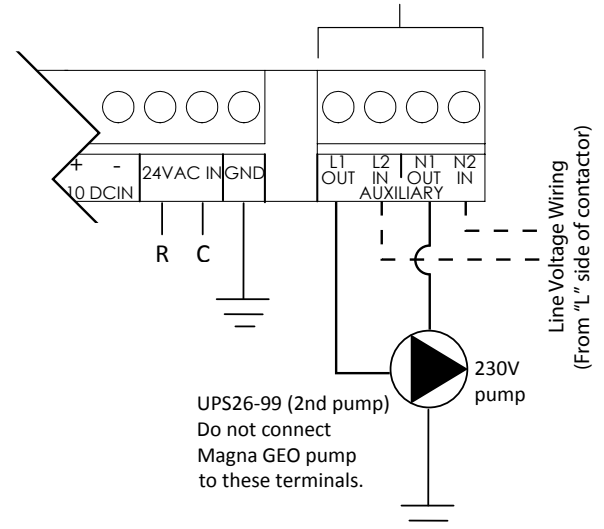

Figure 5: High Voltage to 2nd pump
6. Complete high voltage wiring to second pump (if applicable). If a second pump is installed, the second pump must be wired to the Grundfos controller, so that the relay in the controller can engage/disengage the pump based upon heat pump operation (for example, first or second stage operation/flow rate). Refer to figure 5 for wiring. Run high voltage wiring from the “L” side of the compressor contactor to the Grundfos controller terminals. Run wiring from the controller to the second pump. Wiring must meet applicable code requirements, including requirements for wire protection, such as conduit. Wire size must be at least 14 AWG copper conductor.